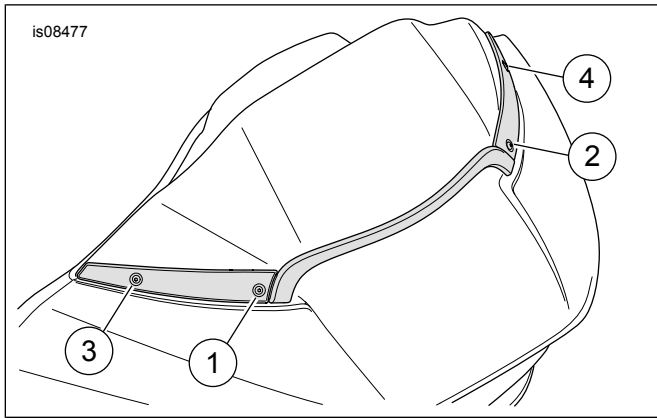

Figure 2. Screw Tightening Sequence
10. See Figure 2. Tighten all four fasteners to 0.9–1.35 N·m (8–12 in-lbs), following the tightening sequence shown in Figure 2.